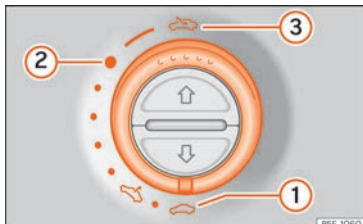

Fig. 15 On the internal cover of the roof: rotate the button to open and close.
- Open: turn the switch to position » » Fig. 15 (3).
- Comfort position: turn the switch to position » » Fig. 15 (2).
- Close: turn the switch to position » » Fig. 15 (1).